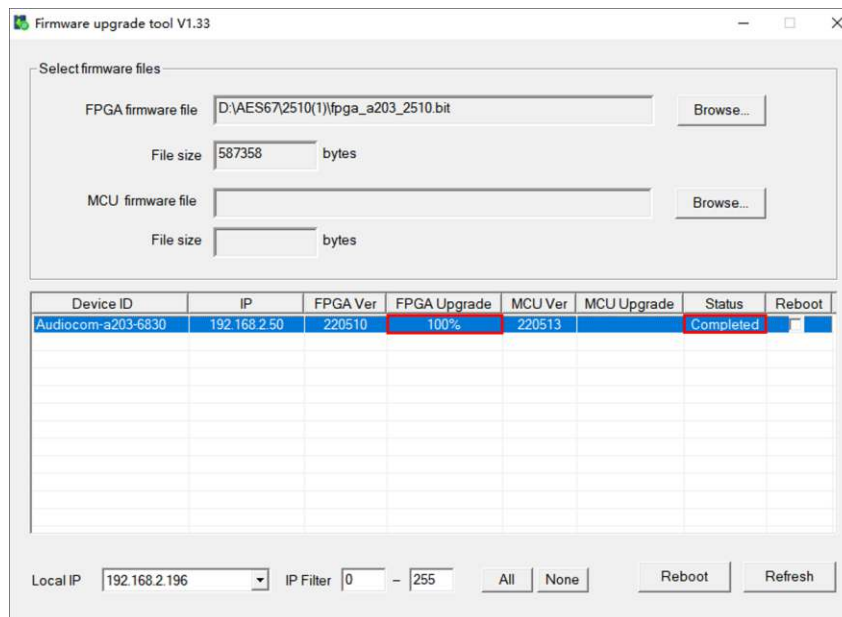

Figure 25: FPGA Upgrade Complete
Step 4: Once the upgrade is complete; the 'FPGA Upgrade' column will display "100%" and the 'Status' column will display "Completed", as shown in **Figure 25**.